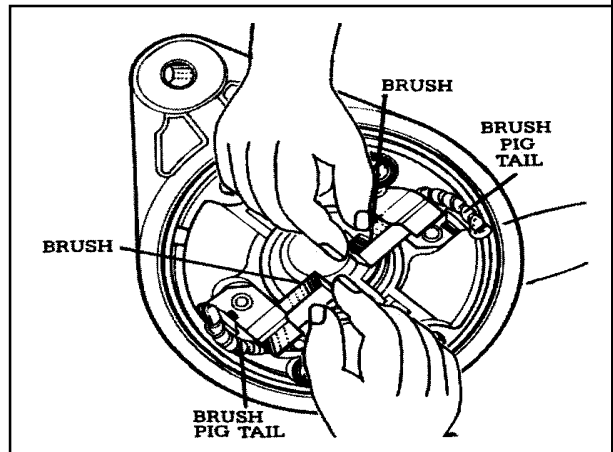

Figure 9
- Ensure that the brushes move freely in their holders. If the movement is sticky clean with a good cloth and petrol reference figure 9.